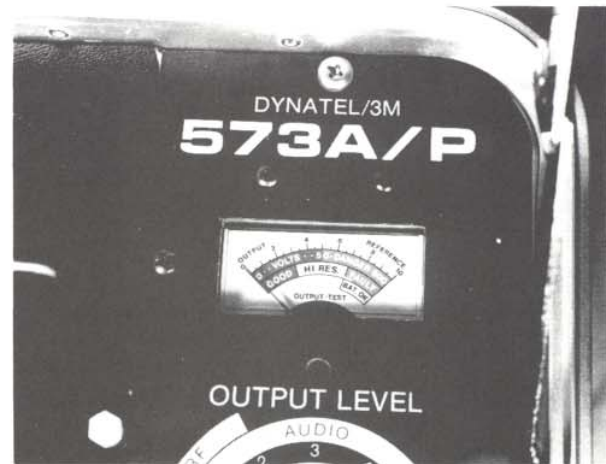

Fig. 10 — 573A/P Transmitter Meter
- 1) The OUTPUT-TEST meter has three indicator bands to show test conditions (Fig. 10).